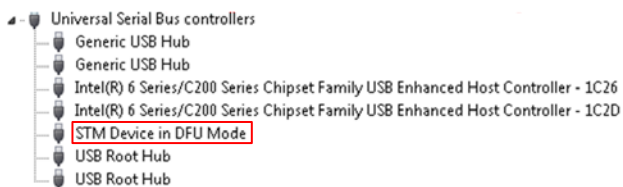

Figure 7. STM Device in DFU Mode Displayed
4. Go to **Device Manager** > **Universal Serial Bus controllers** and wait until the PC detects **STM Device in DFU Mode** (see Figure 7).